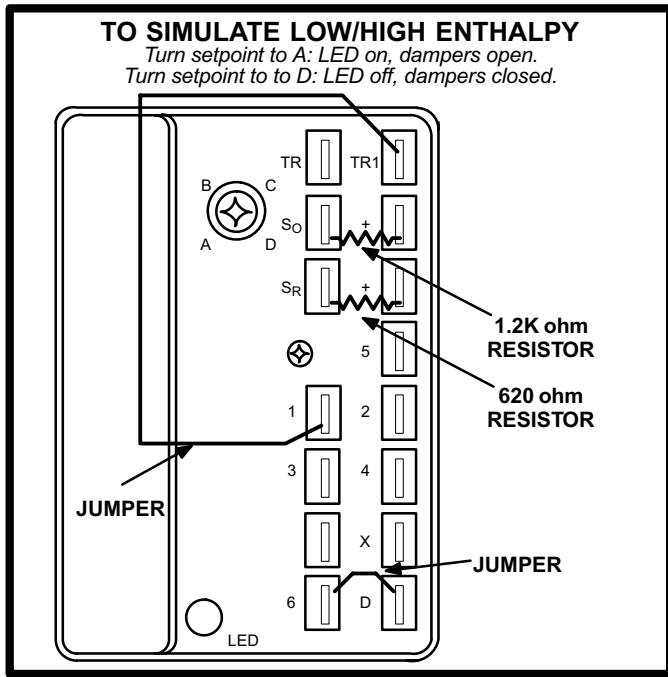

**FIGURE 11**
- 20- To test mixed air sensor, measure resistance (ohms) through the sensor. Resistance should match values in figure 11.